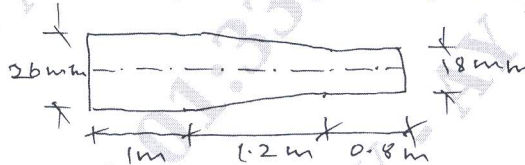

Fig.Q2(b)
- b. Find the total elongation of the bar shown in Fig.Q2(b) subjected to an axial tensile load of 50 kN on the bar of the material having modulus of elasticity of 2.1×10^5 N/mm².